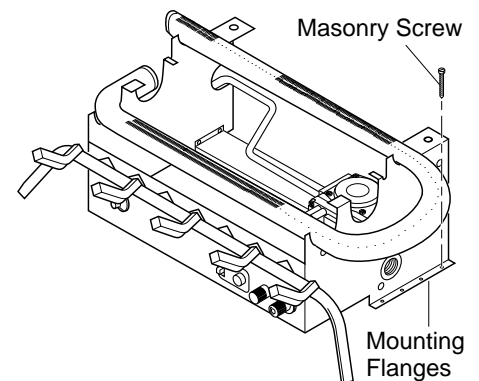

Figure 11 - Attaching Base Assembly to Fireplace Floor
4. Mark screw locations through holes in mounting flanges (see Figure 11). If installing in a brick-bottom fireplace, mark screw locations in mortar joint of bricks.
7. Attach base assembly to fireplace floor using two masonry screws (in hardware package) (see Figure 11).